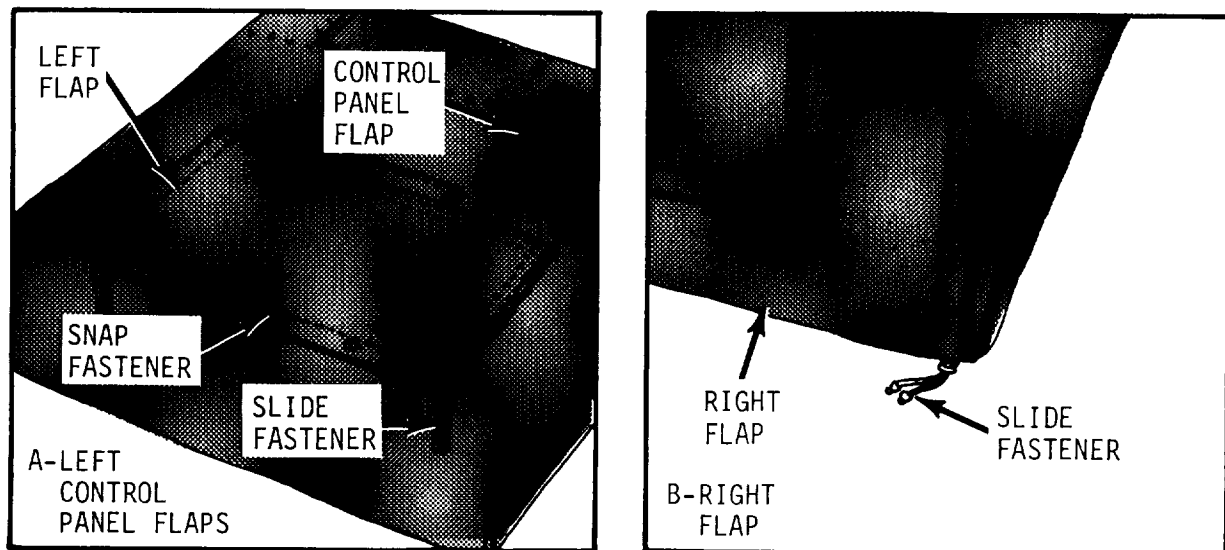

Figure 2-9. Cold weather cover.
(2) Prepare the generator set cover for operation (fig. 2-9).